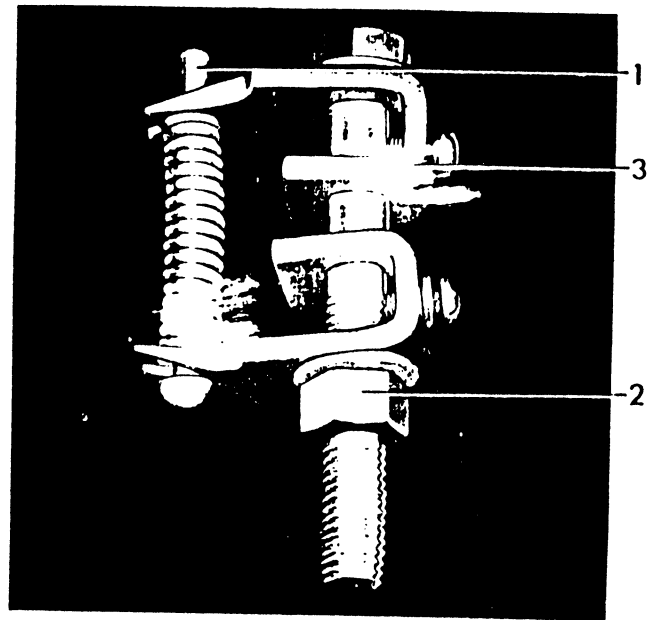

Figure 24B (8034465)
3. Turn nut (2) in clockwise direction to compress contact spring (Figure 24B). Hold spring firmly in yoke on spring compressor to prevent spring from slipping out of the compressor.
4. Place washer (not shown) on guide on top of spring, place top of guide into hole in spring retainer (4) and the round